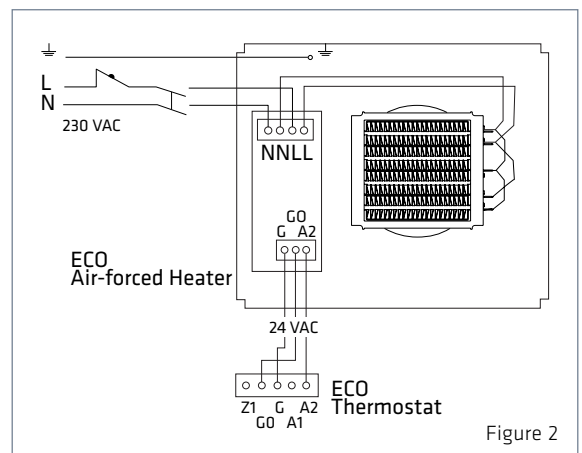

Figure 2
3. Pull the cover away from the rear part (1).
4. Push the collar of the rear part inside the supply air duct and fix the rear part to the wall, using four screws (4), Ø max 5 mm.
5. Connect the supply cable of the supply air unit (MMJ) and the control cable of the thermostat (KLMA) to the terminals of the electronic part of the supply air unit as shown on Figure 2.
1. Connect supply voltage (230V) to terminals N and L of the electronic part of the supply air unit as shown on Figure 2.
2. Connect the grounding to the separate ground terminal in the supply air unit as shown on Figure 2.
3. Connect the supply air unit of the ECO series to the thermostat by means of the KLMA cable as shown on Figure 2.
2. Remove the cover (2) of the thermostat from the rear part (1), using e.g. a small screwdriver (clips at the upper and lower edge of the thermostat).
3. Fix the rear part of the thermostat either to the instrument box or directly on the wall, using screws (3).
4. Connect the cables to the terminal block (5) as shown on Figure 2.